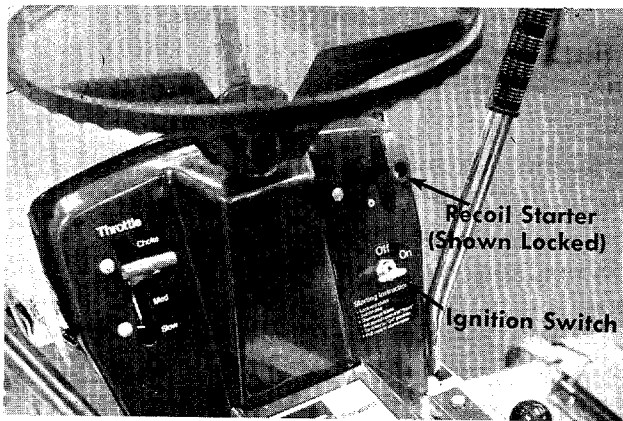

FIGURE 11. RECOIL STARTER
Recoil Model. See figure 11. Turn the key to the ON position when starting the engine. To stop the engine turn the key to the left to the OFF position and remove the key to prevent accidental starting.
k. Recoil Starter. The recoil starter is located on the right side of the dashboard. The recoil starter can either be pulled while seated on the rider or pulled while standing behind the rider. The ignition key must be on before the engine will start. After the engine starts, the recoil starter handle must be returned and locked into the dashboard before the blades or clutch are engaged. The engine will stop if you do not follow these instructions. See figure 11.